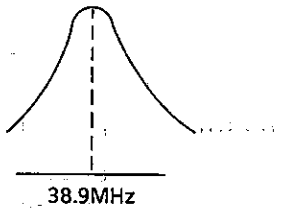

Figure 2-5.
3. Connect the response lead to pin ⑪ of IC1901.
4. Adjust T1901 to align the peak as shown in Fig 2-5.